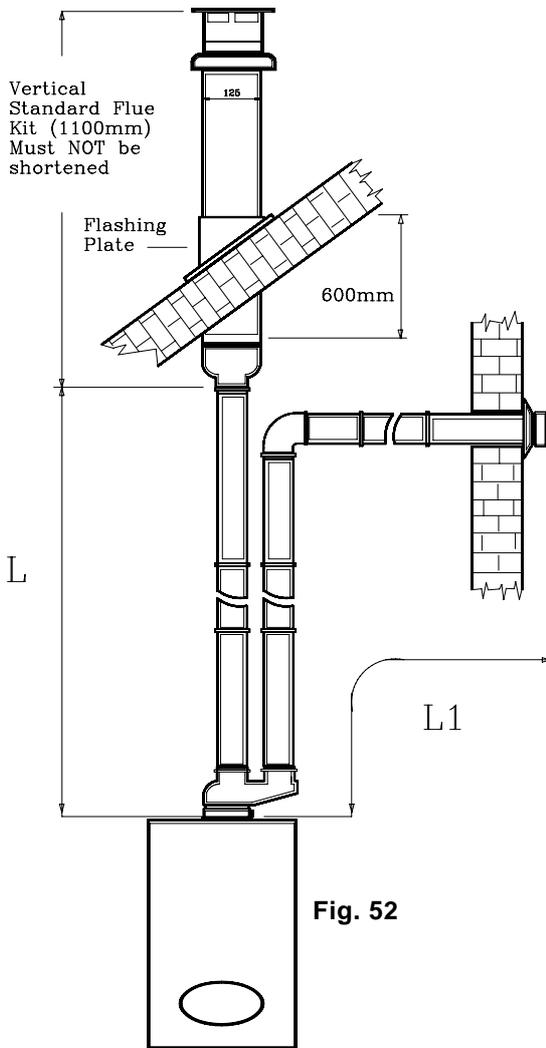

Fig. 52
**11.1.2 Exhaust/suction system with two separate rated 80 dia. Pipes - exhaust on flat or sloping roof, suction from vertical wall ( Fig.52).**